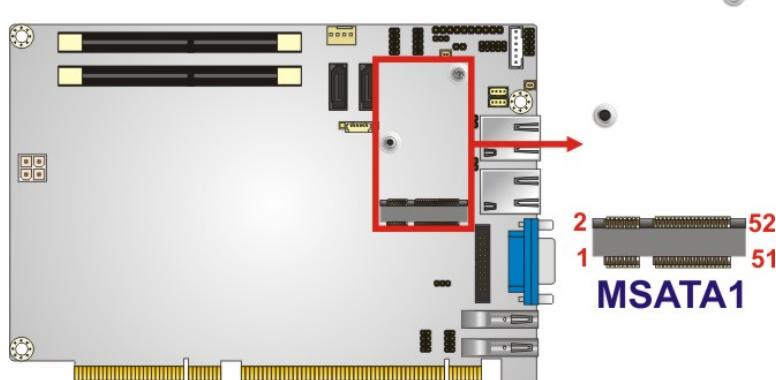

Figure 3-5: PCIe Mini Slot Location
**Step 2:** Locate the PCIe Mini slot on the motherboard (Figure 3-5).